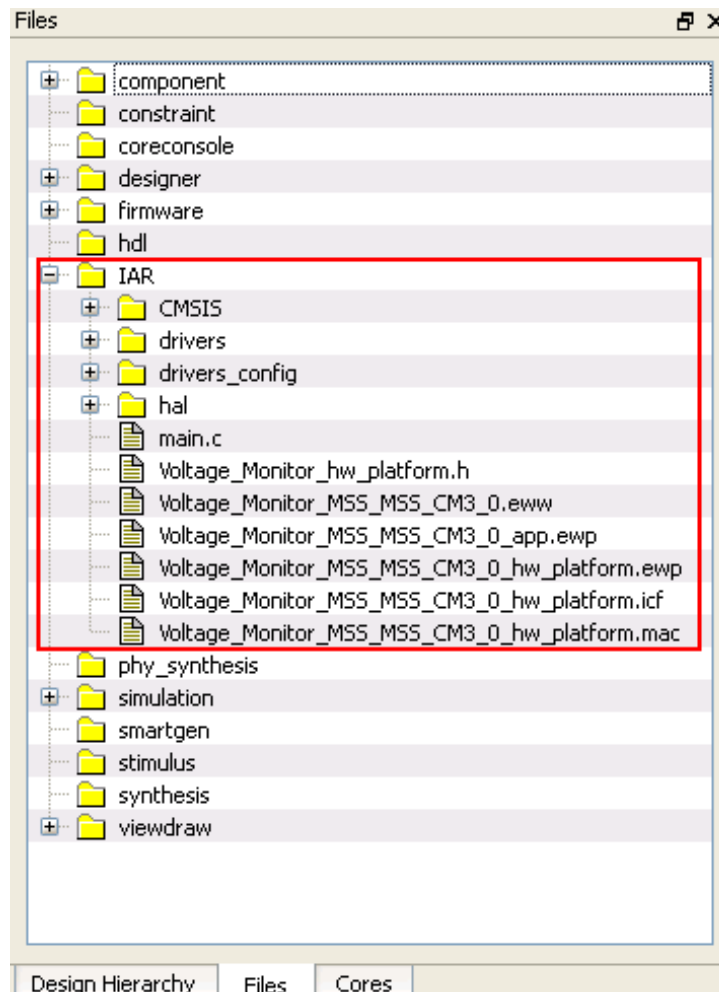

Figure 65 · Files Window
- Confirm that the IAR folder is created with the folders and files as shown in Figure 65 .